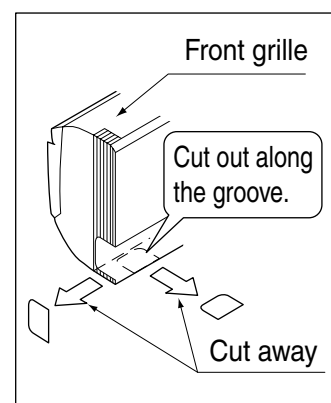

Fig. 4
- Check the location for the hole using the included paper pattern for installation (3).
- Temporarily attach the installation panel (1) at the temporary-securing position on the paper pattern for installation (3) and use a level to make sure the drain hose is either level or tilted slightly downward.
- Secure the installation panel (1) to the wall using either screws or bolts.
- If using the attachment screws for the installation panel (2), attach using at least 4 screws on either side (for a total of 8 screws (15-32 type), 9 screws (40-63 type)) of the recommended installation cleat position on the included paper pattern for installation (3).
(3) If using the left, bottom-left, right, or bottom-right positions for the piping, cut out the through-hole for the piping in the front grille. (Refer to Fig. 4)